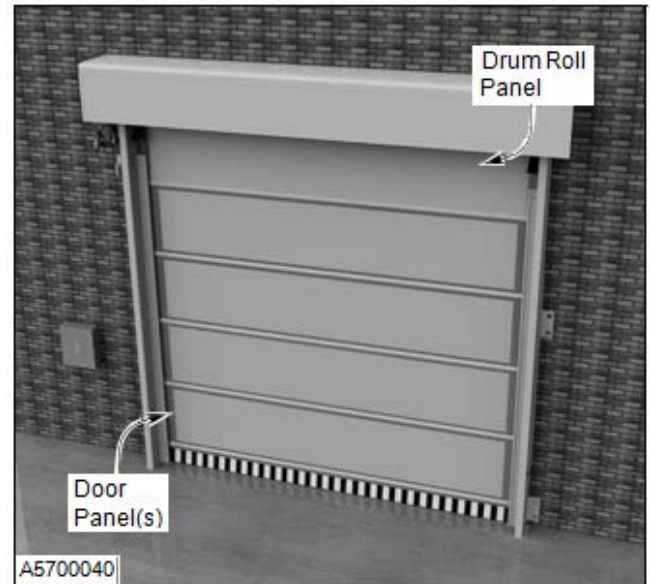
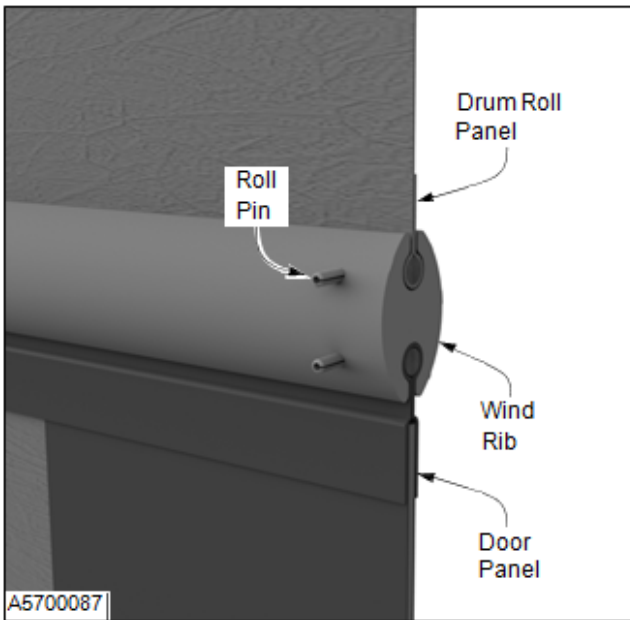

Figure 46
Figure 47
The drum roll panel is attached to the drum roll using a clamp bar and rivets. The separate, smaller door panels below are attached to each other with a wind rib and two roll pins, one at each end. (See Figure 46 and Figure 47.) The roll pins are located about 1 in. from the end of the panel.
5. Slide the wind rib out from between the drum roll panel and door panel. (See Figure 47)